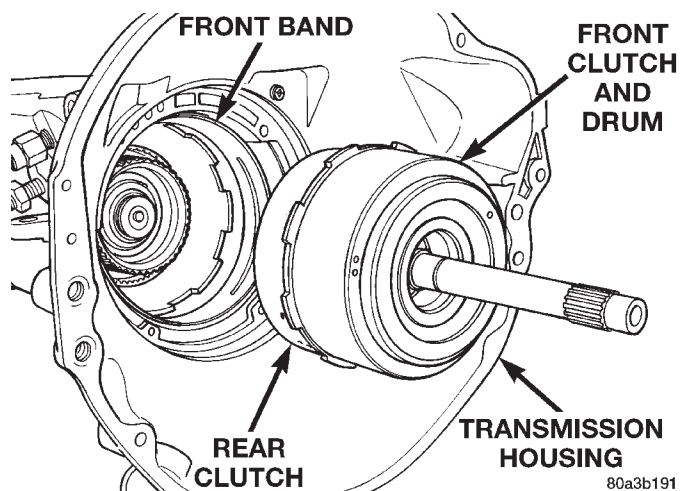

Fig. 104 Installing Front/Rear Clutch
(31) Install front and rear clutch units as assembly (Fig. 104). Align rear clutch with front annulus gear and install assembly in driving shell. **Be sure output shaft thrust washer and thrust plate are not displaced during installation.**
(32) Carefully work assembled clutches back and forth to engage and seat rear clutch discs on front annulus gear. Verify that front clutch drive lugs are fully engaged in slots of driving shell after installation.